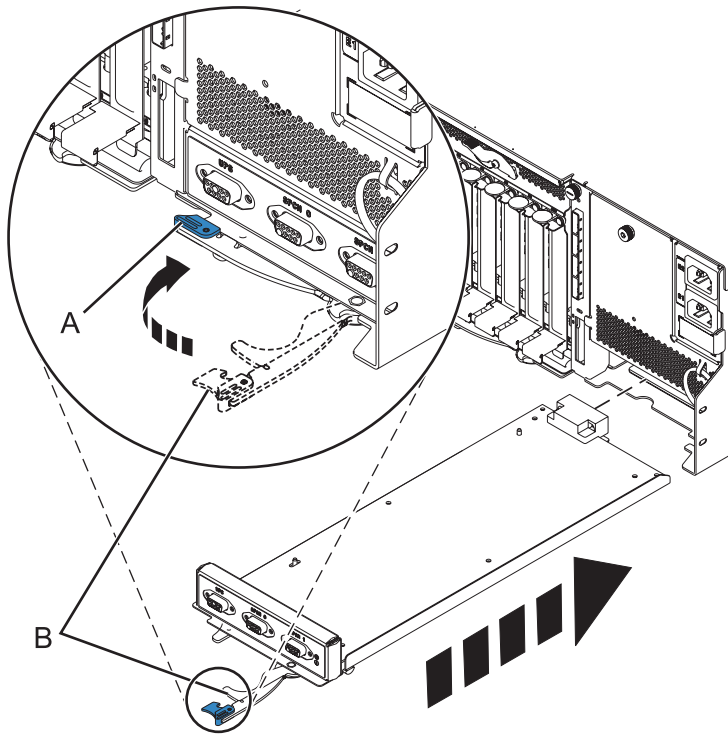

Figure 76. Replacing the enclosure management controller
7. Carefully slide the enclosure management controller into the system and close the latch (A) as shown in Figure 76.